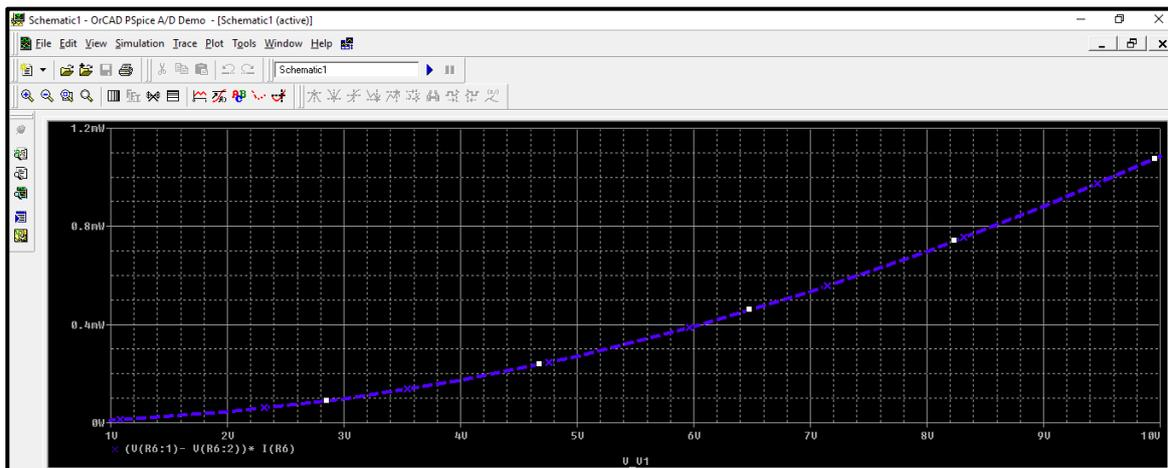

Figure.18
- After changing trace properties, the simulation output window will be as shown in figure.18, always make sure to increase the trace width in your report.